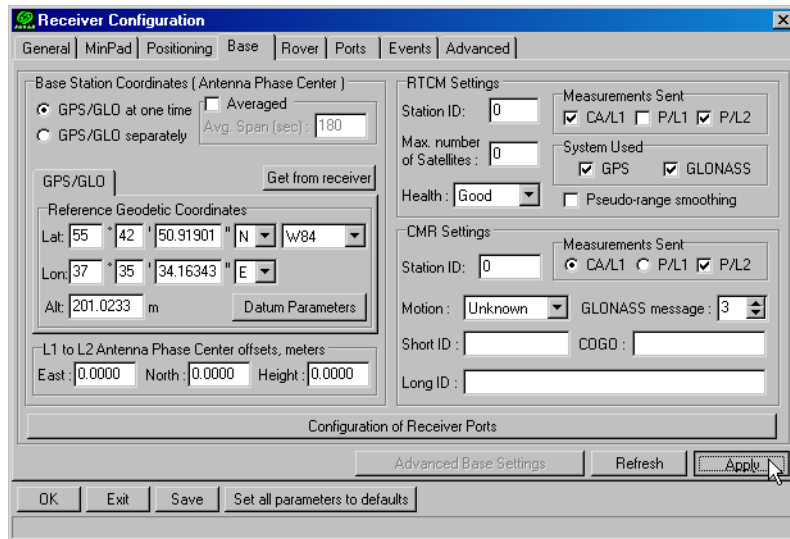

Figure 3-11. Base Tab Configuration
- Select the **Base** tab and set the following parameters (Figure 3-11 on page 3-16):